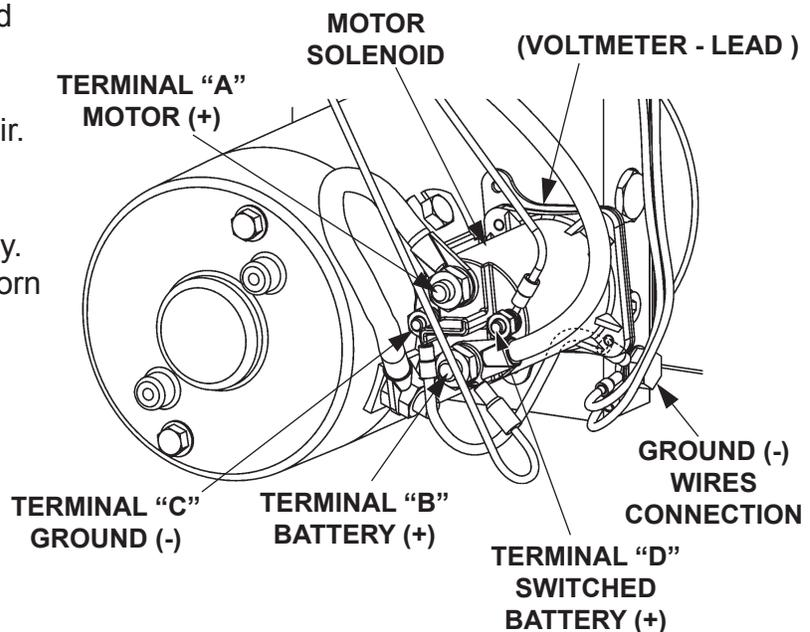

FIG. 48-1
1. Connect voltmeter between motor solenoid terminal “B” and ground wires connection on pump (FIG. 48-1). Verify that battery power is getting to “B”. Recharge the battery if voltmeter indicates less than 12.6 volts dc.
3. Touch a jumper wire to terminals “B” & “D” (FIG. 48-1). If motor runs check switch, the switch connections, and white wire. Check and correct wiring connections or replace the switch.
4. Touch heavy jumper cables to terminals “A” & “B” (FIG. 48-1).